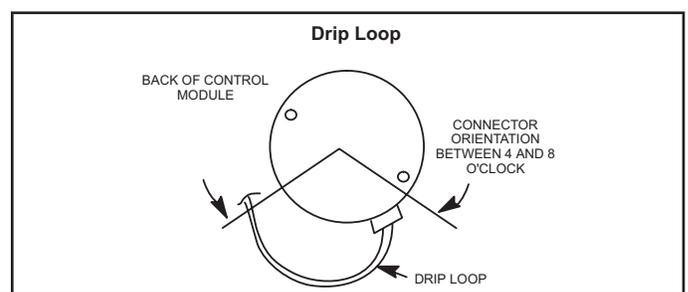

FIGURE 17
- 5 - The electrical connectors of the motor should be facing down to form a drip loop (figure17). This will direct moisture away from the motor and its electric connections on the motor.